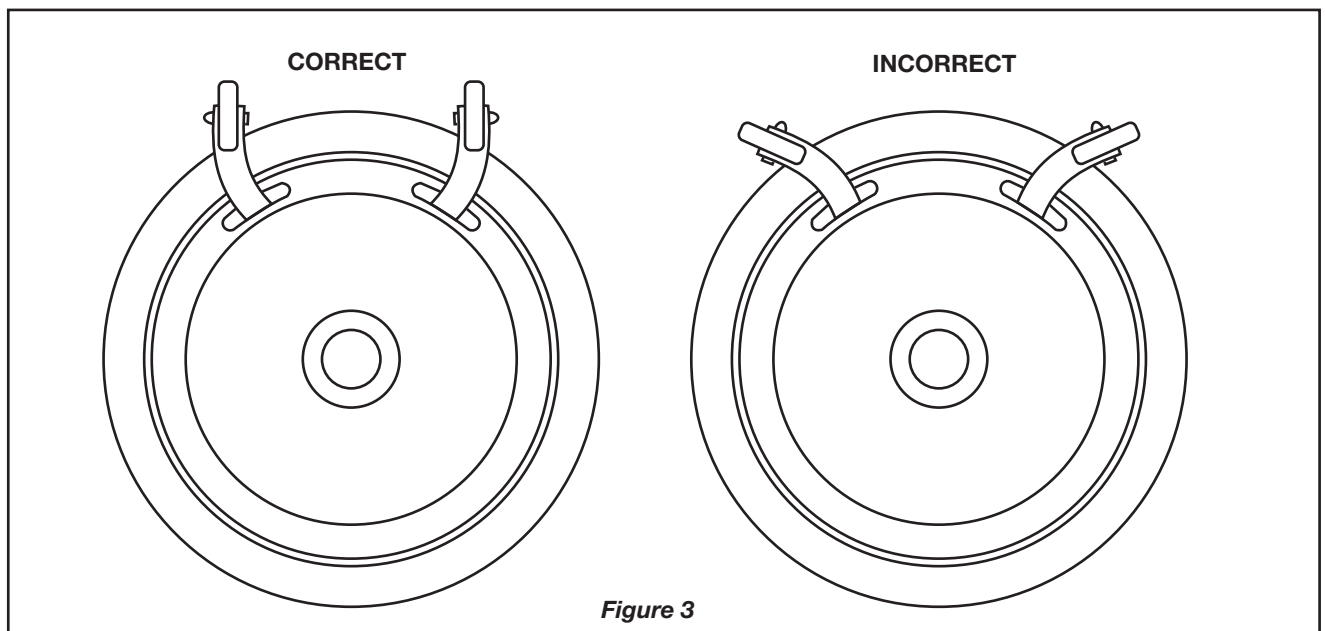

Figure 3
2. Take note that **Wheel Assemblies** are **RIGHT** and **LEFT** handed. *(Figure 3)*